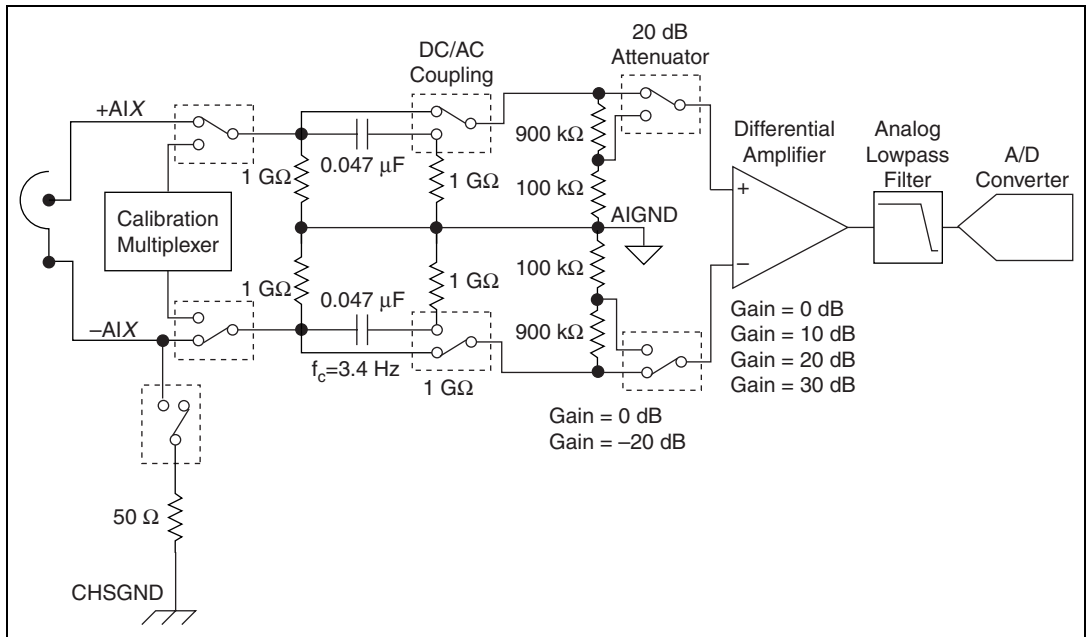

Figure 2-2. NI PXI-4461 AI Circuitry Block Diagram
This section describes the theory of operation of the NI PXI-4461 input components. Figure 2-2 shows the AI circuitry block diagram.
The 0, 10, 20, and 30 dB gains are provided by the differential amplifier, as displayed in Figure 2-2. The  $-20$  dB gain is provided by the resistor divider network, and the  $-10$  dB gain is provided by a combination of the  $-20$  dB gain and 10 dB positive gain.
Selecting AC coupling enables a high-pass resistor-capacitor (RC) filter into the positive and negative signal path. The filter is created by the combination of 0.047  $\mu$ F capacitors and 1 M $\Omega$  of input resistance. The filter settling time is approximately 0.25 s. The settling time is somewhat dependent on the DUT impedance. Refer to Figure 2-2 for a representation of the filter circuitry.